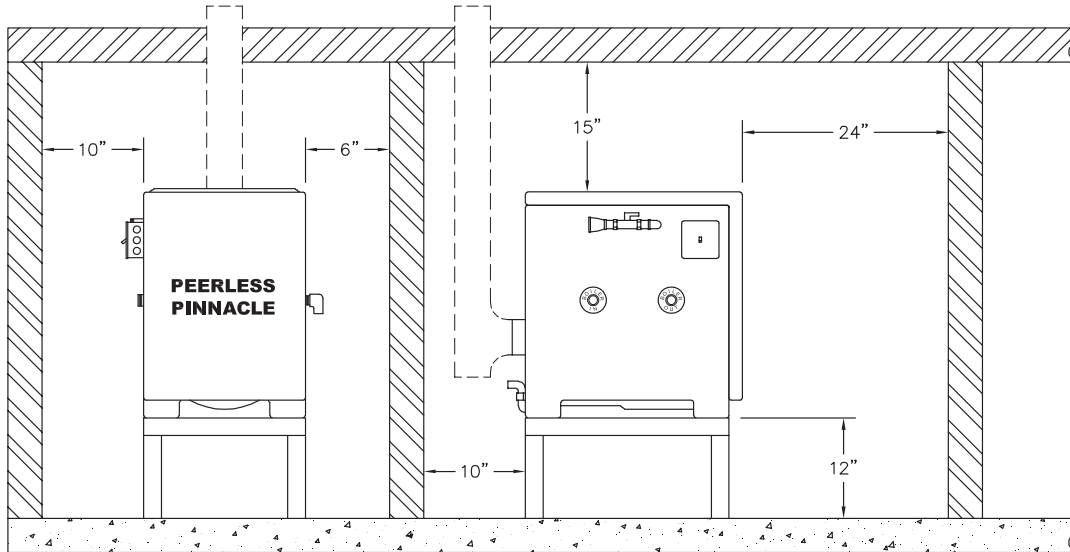
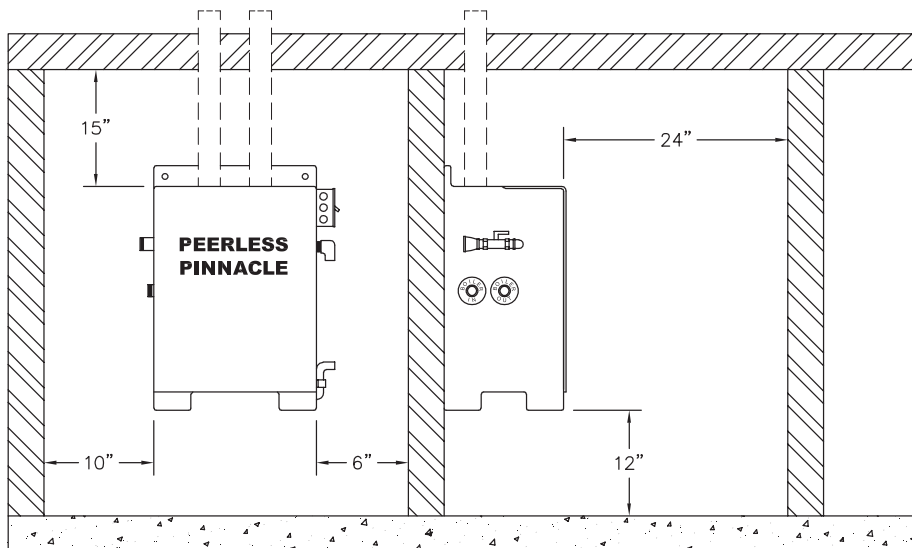

Figure 1.1: Accessibility Clearances – Floor Standing Units
Figure 1.2: Accessibility Clearances – Wall Hung Units
2. Refer to Figure 1.1 and Figure 1.2 for the recommended clearance to allow for reasonable access to the boiler. Local codes or special conditions may require greater clearances.